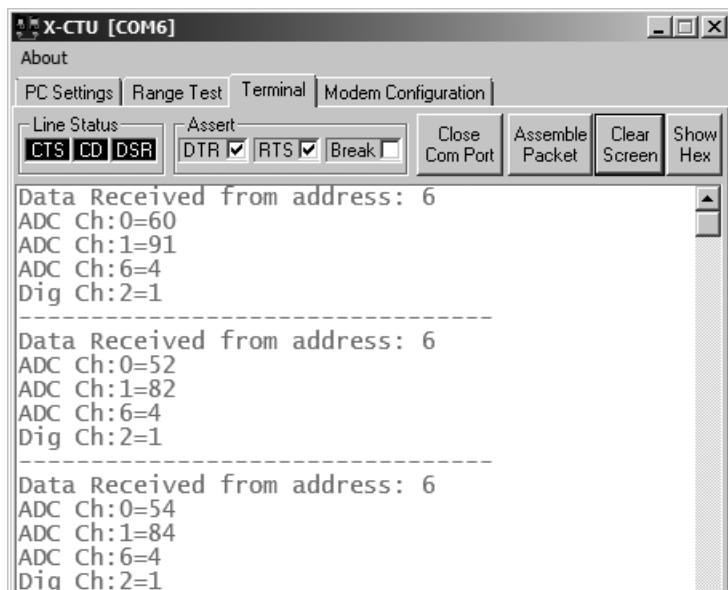

Figure 5-26 Displaying data from an XBee sending raw ADC/digital data.
- ✓ Open the Terminal window and monitor. You should see something similar to Fig. 5-26.